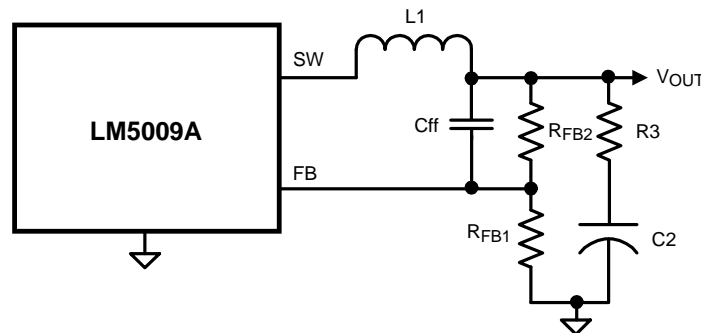

Figure 15. Reduced Ripple Configuration
a) Reduced ripple configuration: In Figure 15, C_{ff} is added across R_{FB2} to AC-couple the ripple at V_{OUT} directly to the FB pin. This allows the ripple at V_{OUT} to be reduced to a minimum of 25 mVp-p by reducing R_3 , since the ripple at V_{OUT} is not attenuated by the feedback resistors. The minimum value for C_{ff} is determined from: